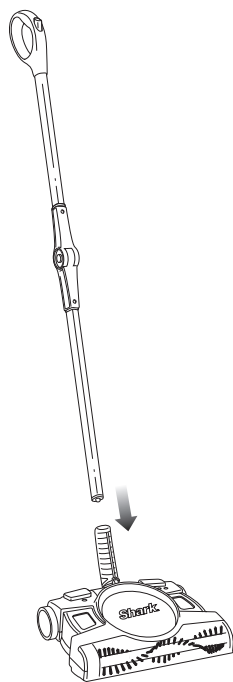

Fig. 2
- 2** Insert the Shark® Backsaver™ folding handle you just assembled into the base. You should hear the locking tab click into place. (fig. 2)